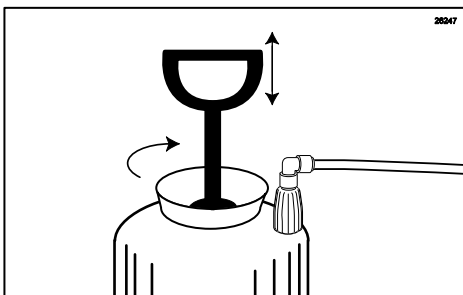

Figure 124
5. Reinstall the hand pump and tighten sufficiently. Using the handle, pump air into the Sanitizer Tank to prime the pump (approximately 10 strokes.) (See Figure 124.)